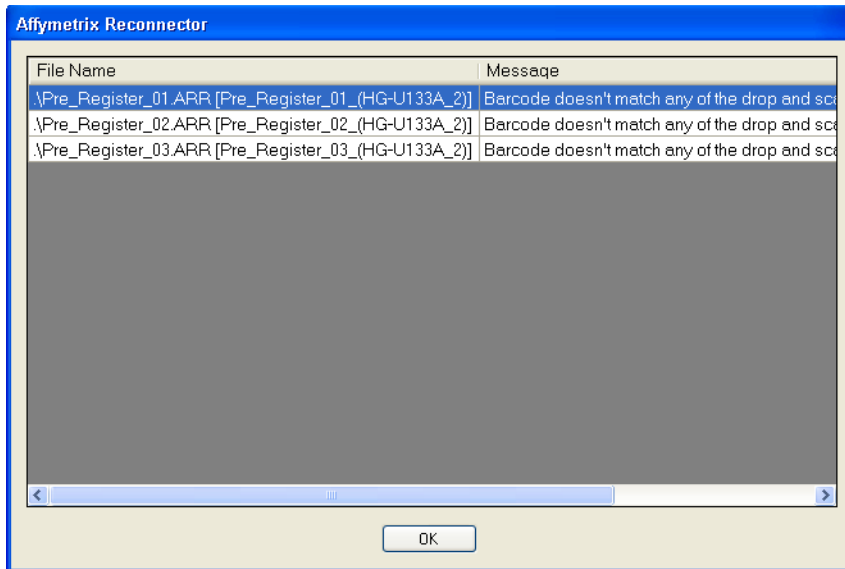

Figure 3.23 Filter List
- Click the Filter button to show a list of files that are not eligible for the merge operation (Figure 3.23).